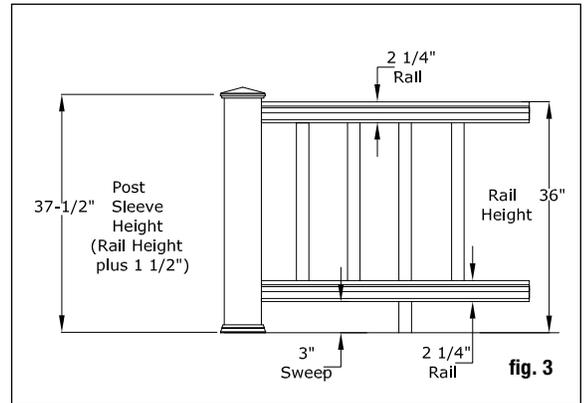

fig. 3
Step 5 Trim 4x4 post sleeves to length. If you plan to use a post cap, post sleeves should be a minimum of 1-1/2" longer than the railing height (fig. 3). Example: For a 36" high railing, trim post sleeve to a minimum of 37-1/2", or longer if desired; can be left longer if desired. Slide a trimmed post sleeve over each 4x4 railing post. Use shims as needed to create a snug fit. Slide a post base trim over each post sleeve.
Step 8 Assemble the lower inner rail and support block assembly. A support block is needed every 2' on-center. Check building codes for a maximum spacing between deck surface and bottom of rail (sweep). A 3" sweep is recommended, but can be more or less if codes allow (fig. 3). Trim support blocks to desired height and pre-drill 1/8" holes in the proper locations. Holes must be centered on the inner rail for support blocks to fit properly. Using the support block connectors, fasten support blocks to the underside of the inner rail.
Step 11 Determine the length of the balusters. Figure 3 illustrates how a 36" high railing might be sized. You'll need to account for a 3" sweep + 1-7/8" for the bottom railing + 2-1/8" inches for the top railing, a total of 7". So 36"-7"= 29" baluster height. If these are the dimensions that you are going to use, cut the balusters to 29" length using a cut-off or miter saw. Use 35" balusters for 42" railings. If you want to have your railing at a different height, use figure 3 as a planning tool to determine the height to cut the post sleeves and the balusters. *Note: If you are using 32" glass balusters, your overall railing height will be 39". Use a fixture to ensure a consistent length (+/- 1/16").* Trim the balusters to the required length. Install balusters on each baluster connector. Gently tap the balusters with a rubber mallet to eliminate any gaps. Check for level end to end. *Tip: Wrap painters tape around the back side of both posts and place balusters against the tape. The tape will balance the balusters in place until the upper rails are installed. Remove tape when upper rail is in place.*
Step 9 Determine the length of the balusters. Figure 3 illustrates how a 36" high railing might be sized. Use figure 3 as a planning tool to determine the height to cut the post sleeves and the balusters. *Note: Use a fixture to ensure a consistent length (+/- 1/16").* Install balusters on each connector. Gently tap the balusters with a rubber mallet to eliminate any gaps. Check for level end to end. *Tip: Wrap painters tape around the back side of both posts and place balusters against the tape. The tape will balance the balusters in place until the upper rails are installed. Remove tape when upper rail is in place.*